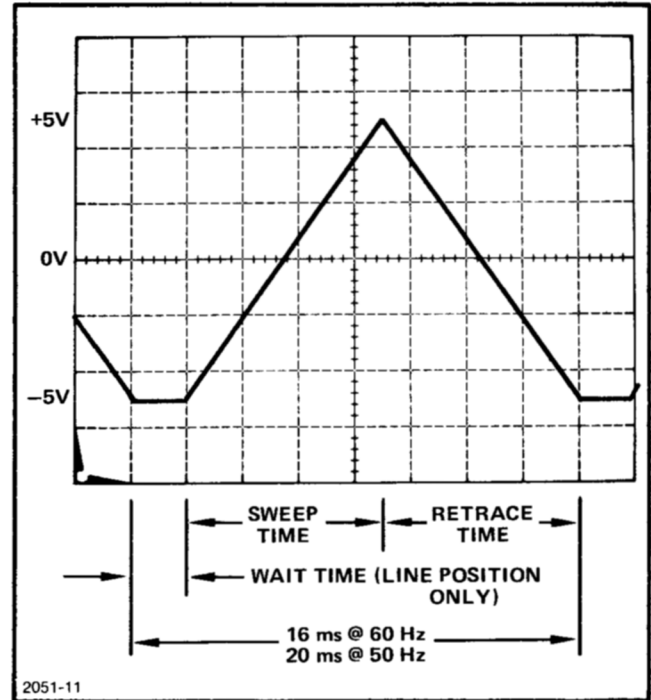
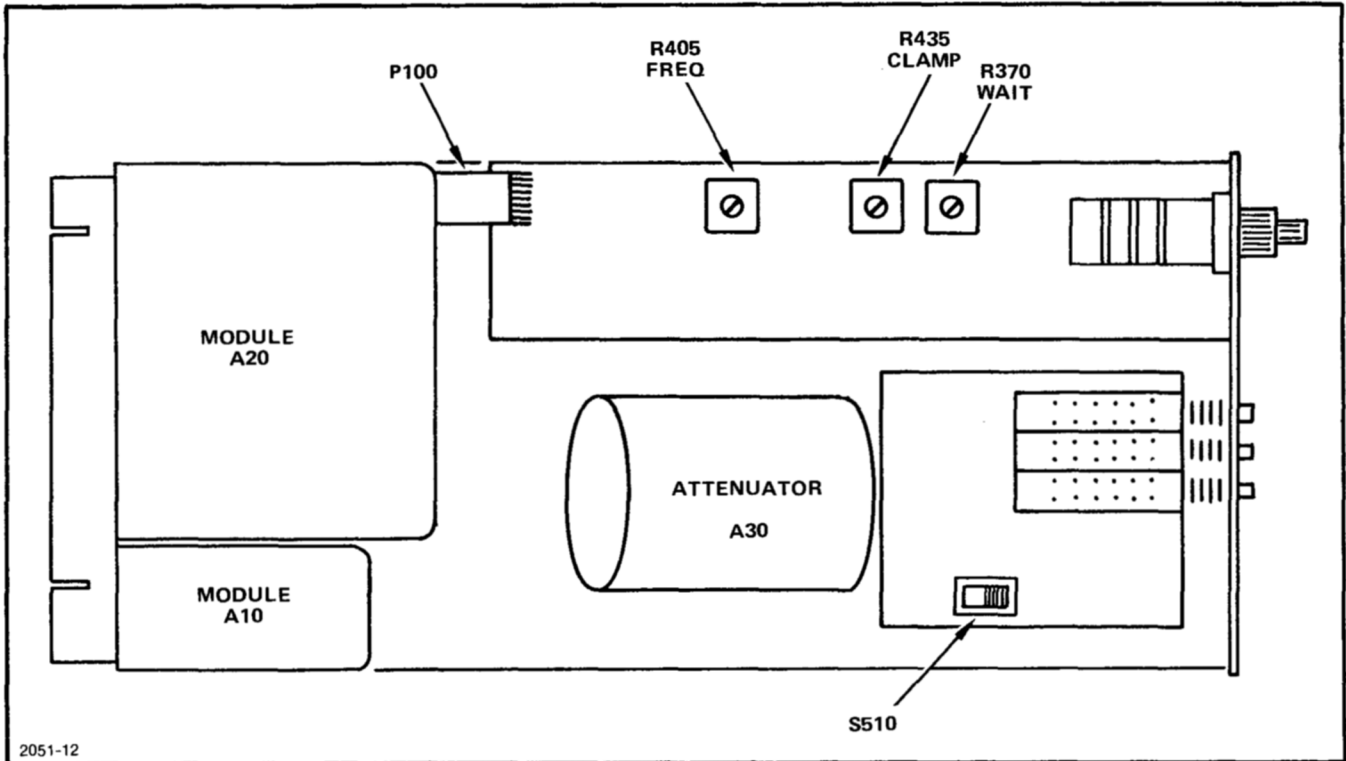

Figure 3-2. SCOPE HORIZ waveform as seen on test oscilloscope.
Figure 3-3. SW 503 adjustment locations, left side.
b. Connect the SW 503 SCOPE HORIZ to the test oscilloscope vertical input. Adjust the test oscilloscope vertical sensitivity to 0.1 V/div² and time base to 5 ms/div, and adjust triggering and positioning for a stable pattern similar to Figure 3-2.
c. Adjust R405 (FREQ) for a sweep time (positive-going portion of waveform) of 10 ms, as indicated in Figure 3-2. See Figure 3-3 for adjustment location.
e. Return the VAR control to its fully-clockwise position, and set the SWEEP MODE/TIME switch to LINE. Set the test oscilloscope time base to 1 ms/div, and adjust R435 (CLAMP) to clamp the base of the waveform to the same amplitude as the waveform base in step c (Figure 3-2). See Figure 3-3 for adjustment location.
f. Adjust R370 (WAIT) for a wait time of approximately 1 ms as indicated in Figure 3-2. See Figure 3-3 for adjustment location.